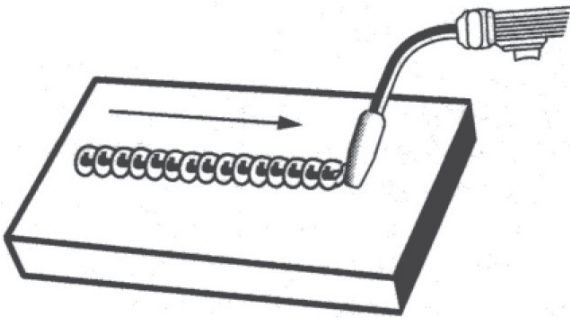

Figure 11. Stringer Bead
1. The STRINGER BEAD (Figure 11) is formed by traveling with the gun in a straight line while keeping the wire and nozzle centered over the weld joint. This is the easiest type of bead to make.